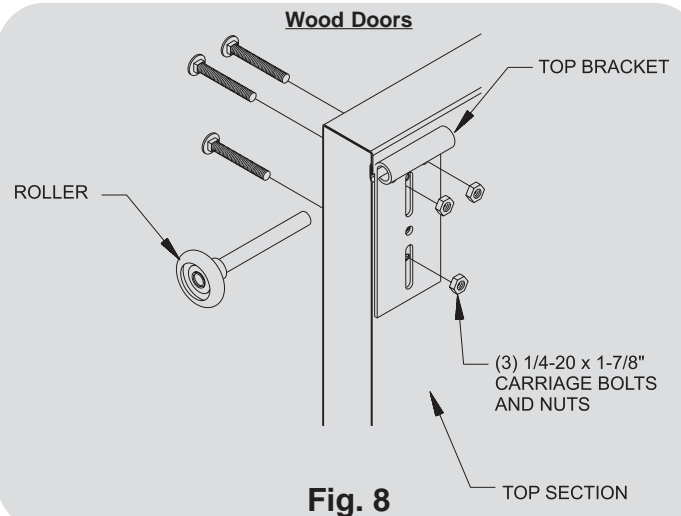

Fig. 8
Identify the top bracket supplied with your door. Place a roller into the top bracket as shown in **Fig. 6** and **Fig. 8**. Push the top section of the door out against the jamb until the section is parallel with the other sections of the door. Twist the roller into the upper track and locate the top brackets against the section. Align the edge of the top bracket with the edge of the section.
For **wood doors**, drill a 9/32" dia (7mm) hole into the lower slot of the top bracket and through the section. Secure using (1) 1/4-20 x 1-7/8" carriage bolt and nut. Adjust the brackets if necessary, drill and secure with (2) more carriage bolts and nuts through the top holes. (see **Fig. 8**)